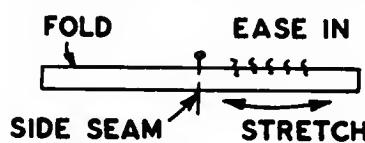

Fig. 274. Shaping the belt.
- easing in on the folded edge (Fig. 274).